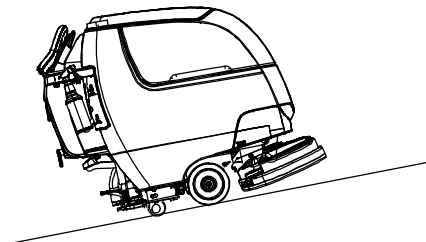

FIG. 131
2. Use a ramp that can support the machine weight and operator and carefully load machine. Do not operate the machine on a ramp incline that exceeds a 21% grade level (Figure 131). A winch must be used when ramp incline exceeds a 21% grade level.